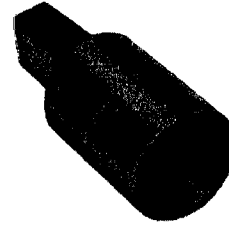

Fig. 24 — P-16E564 Heat Coil Cap
6.17 The P-16E564 heat coil cap (red), Fig. 24, is used in place of the black heat coil caps on protected 300-type frames.